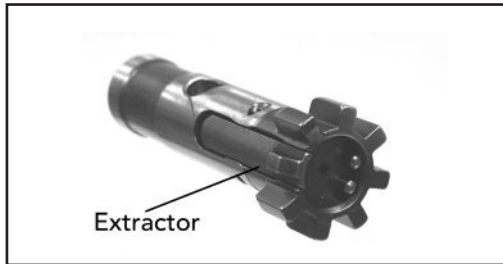

Fig. 45 – Bolt Head
- g. Further disassembly of the bolt head, including removal of the extractor is not recommended (Fig. 45).